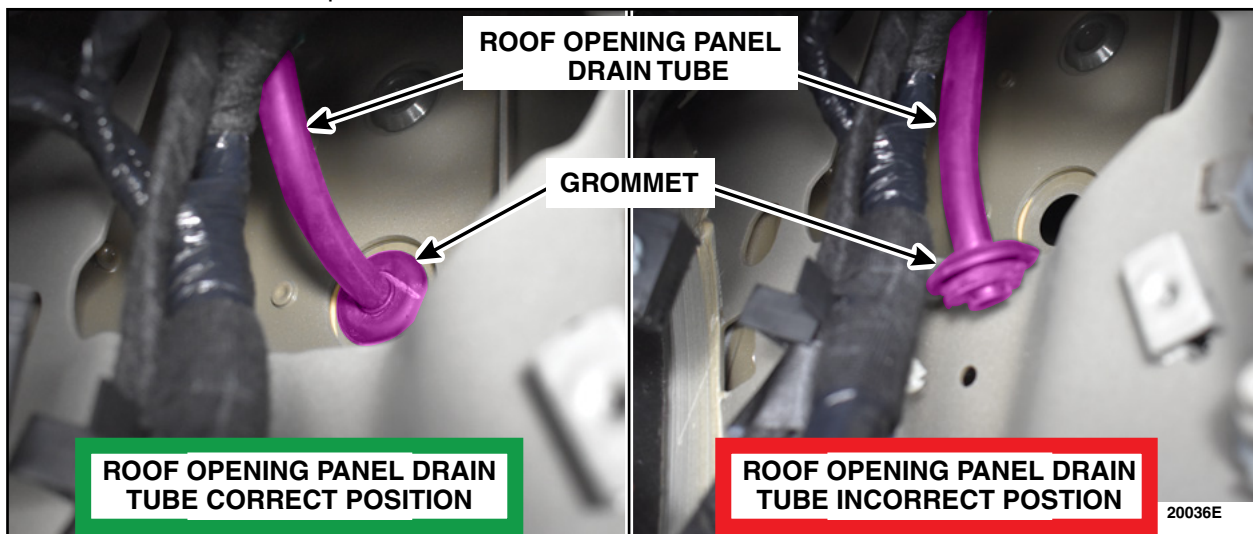

**FIGURE 4**
9. Locate the roof opening panel drain tube on the Right Hand (RH) side of the vehicle behind the BCM. See Figure 4.